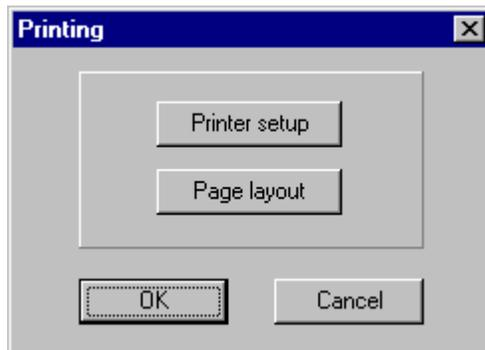

Figure 2.8 The Print Dialog.
When the *Print* command is selected, the *Print* dialog will appear (see Figure 2.8). This dialog allows the user to change a number of printing parameters. The *Printer Setup (PC)/Postscript Setup (UNIX)* button accesses the *Windows Printer Setup* dialog in the MS-Windows version and the *Page Size* dialog in the UNIX version. The *Page Layout* button accesses the *Page Layout* dialog. The data that will be printed to the output device is identical to that which appears in the selected window when a *Refresh* command is issued.